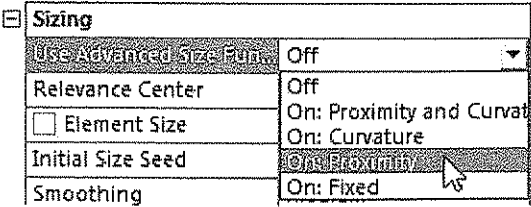

Figure 8-22 Selecting the **On: Proximity** option from the **Use Advanced Size Function** drop-down list
15. Select the **On: Proximity** option from the **Use Advanced Size Function** drop-down list, as shown in Figure 8-22; a list of options are added to the **Details of “Mesh”** window.